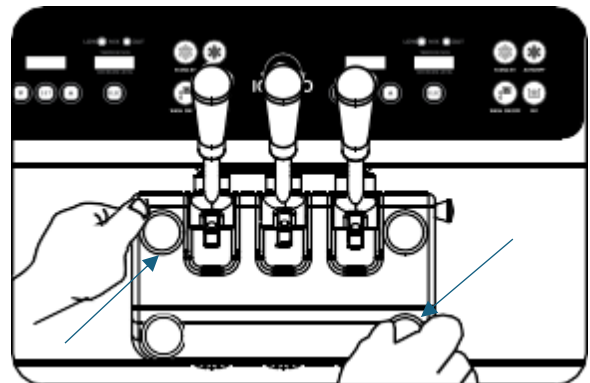

Figure 30
12. Fasten the two pairs of freezer door bolts. Do this by hand, tightening them diagonally as shown in Figure 30. (Top left and bottom right, then tighten bottom left while tightening the top right). Fasten tightly. If they are loose, the soft serve product can leak.